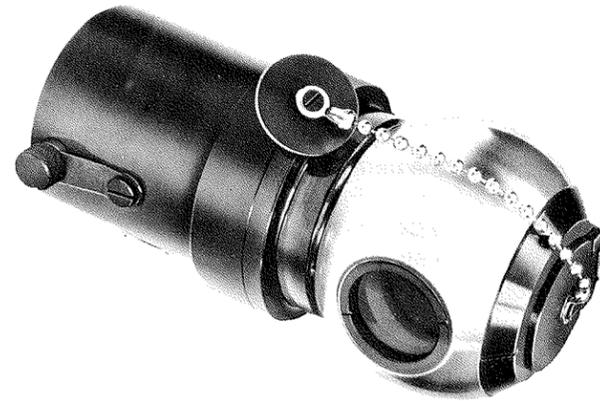

Figure 2-12. 71 2410 Optical Square
**2-48. To Establish a Plane Perpendicular to a Reference Line.** A perpendicular plane is established with one of two types of Cubic Precision Optical Squares: the 71 2410 Optical Square or the 71 2412 Double Sphere Optical Square. (See Figures 2-12, 2-13 and 2-14.) Both Optical Squares provide one line of sight that passes straight through and, by means of a pentaprism, a second line of sight that is turned 90 degrees,  $\pm 1$  second of arc, from its entering direction. The apex of the 90 degree angle is at the center of the sphere; therefore, adjustments about the sphere do not change the position of the intersection of the two lines.